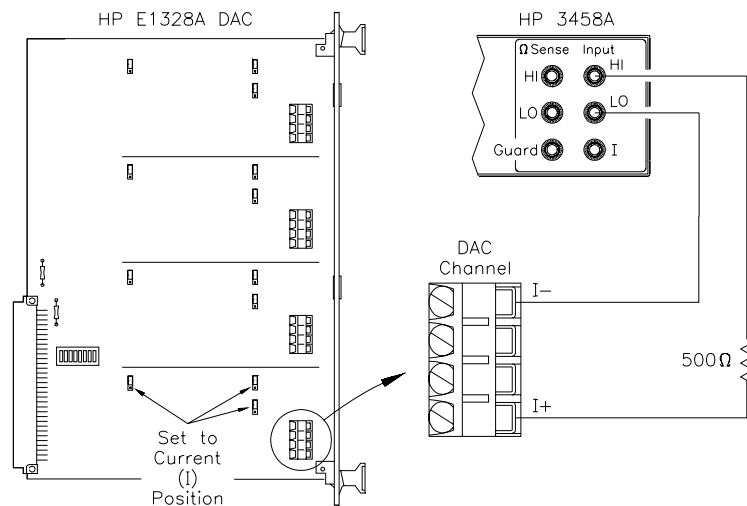

Figure 4-4. Current Measurement Accuracy Connections
Connect the equipment as shown in Figure 4-4. Be sure the three jumpers in each DAC channel are set to the I (current) position. Then, set the HP 3458A to DCI function and set NPLC 100.
The value of 500 Ω in Figure 4-4 is the factory value used for original measurements. If you previously calibrated your DAC with a different resistance value, use that resistance value rather than 500 Ω .
2. Connect HP 3458A and 500 Ω resistor to Channel 1 (see Figure 4-4)